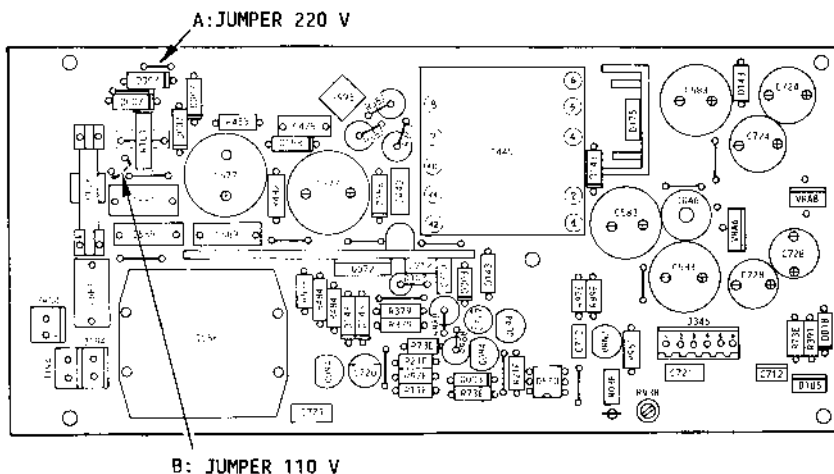

Fig. 4-4 Power Supply Board ALI LG03
- Remove the fuse (see figure 4-4) and replace it with a new fuse (1.6 A for the 220 Volt version and 2.5 A for the 110 Volt version).